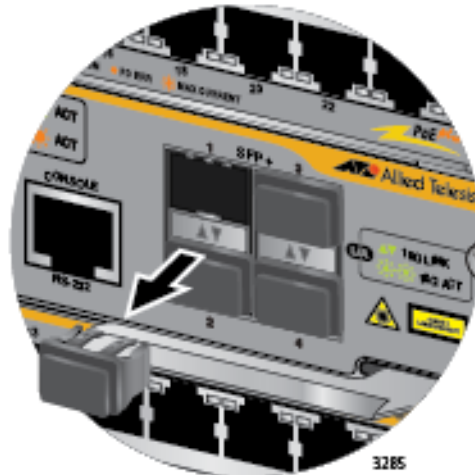

Figure 106. Removing a Dust Cover from an SFP+ Slot in the AT-SBx81CFC960 Controller Fabric Card
1. Remove the dust plug from the slot chosen for the SFP+ transceiver. Refer to Figure 106 on page 181.
1. Remove the dust plug from one of the SFP+ slots. You may install AT-SP10TW Cables in any of the SFP+ slots on the controller card. Refer to Figure 106 on page 181.